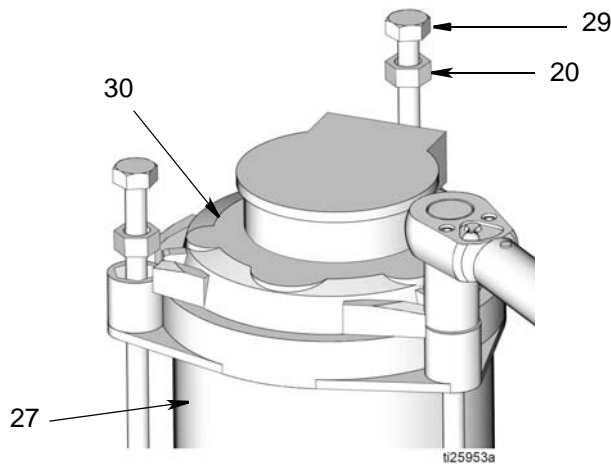

FIG. 14
9. Use a wrench to remove tie rods (29). Loosen the rods in a diagonal pattern, taking care to loosen each rod gradually until all rods are completely loosened. Remove tie rods (29) and spacers (20). See FIG. 14.
10. Remove cover (30) from reservoir (27) (FIG. 14).